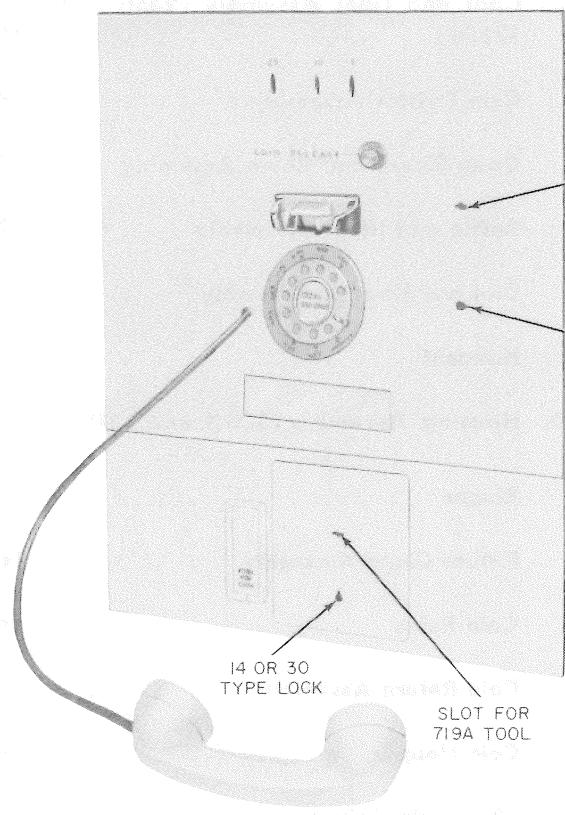

Fig. 1—235G Coin Collector
1.02 The 235G(MD) and 1235G(MD) coin collectors (Fig. 1 and 2) are stainless steel, multislots, panel phones. They are similar except the 235G has a rotary dial; the 1235G has a 10-button TOUCH-TONE® dial.